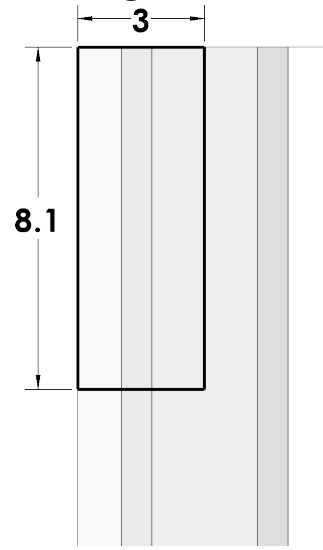

Fig. 27
Step 6. Click **Smart Dimension** (S)  on the Sketch toolbar.
Step 7. Add dimensions, **Fig. 27**.